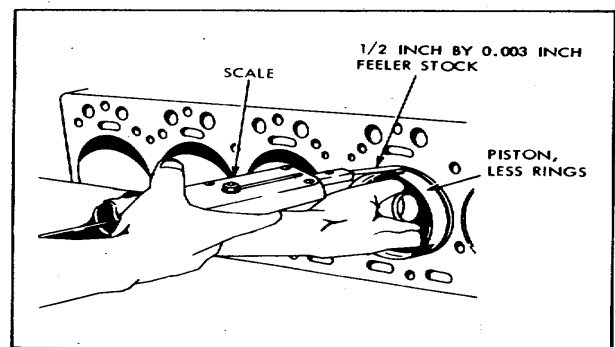

Figure 6-35. Measuring Piston Fit in Cylinder
(1) Soak pistons in SD and remove carbon from the tops and from ring grooves of the pistons.
(2) Using a drill or probe of the proper size, clean carbon from the oil return holes in the ring grooves.
(3) Clean the oil groove passages in the connecting rods and caps.
d. Piston fit. Fit the pistons clean and dry. To fit the pistons to the cylinder bore properly, use a spring scale and a feeler ribbon 1/2 inch wide, 10 inches long, and 0.003 inch thick (Figure 6-35). Insert the feeler ribbon full length into the cylinder bore, about halfway down. Hook the